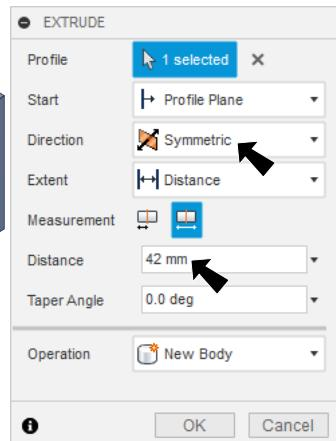

Fig. 6
Step 9. In the Extrude panel set, Fig. 6